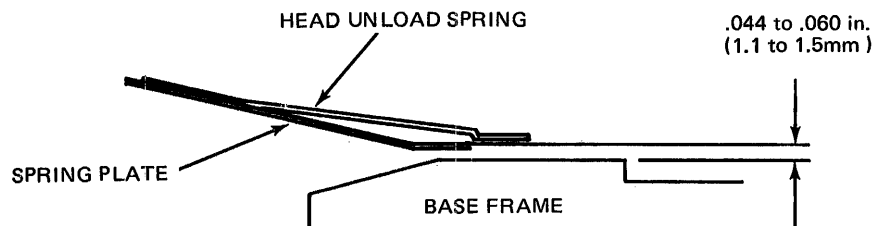

Figure 4-4 Position of the Spring Plate
- Check with a feeler gauge that the clearance between the spring plate and the surface of the base frame is .044 to .060 inches (1.1 to 1.5 mm) (see Figure 4-4).